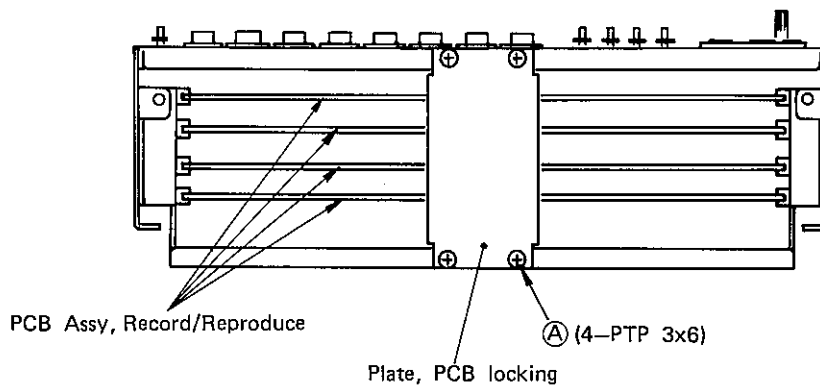

Fig. 6-3
- * With the bottom cover removed, as in previous item 1, remove two upper and lower screws on the panel side, from among the six (D) screws on both sides of the amplifier section.
- * Then, draw out the panel section and remove the dress panel by unscrewing the six screws (E) from the underside of the panel.
4) Record/reproduce PCB (Fig. 6-3)
- * Upon removing the plate holding down the PCB's by unscrewing the four screws (A), the record/reproduce PCB can be brought out by using the extender card as these are all of the plug-in type.